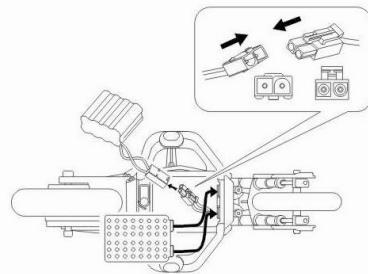

Fig5
2. Connecting the plug of rechargeable battery pack and power plug of car in right way, put in battery box, cover the battery lid, rotate the battery cover press button to battery cover. (Figure 5)